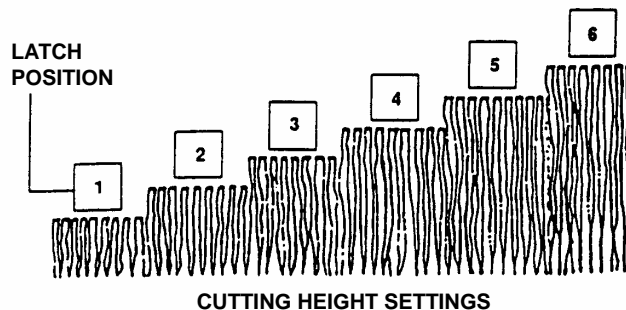

FIGURE 2.9
2. Set all wheels at the same cutting height. The highest cutting position is Notch 6. The lowest cutting position is Notch 1. See Figure 2.9.